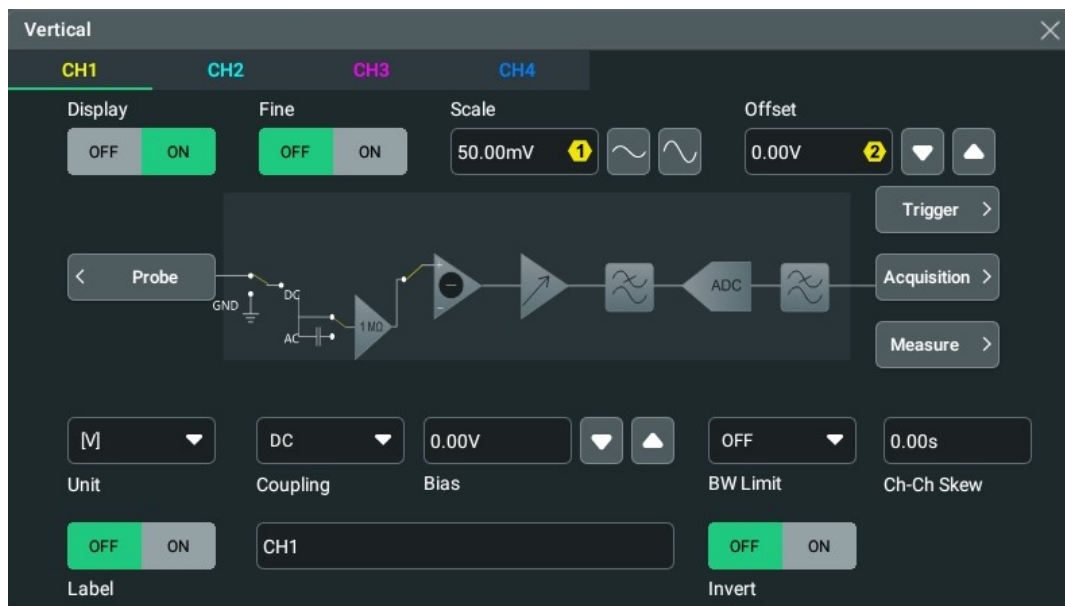

Figure 5.1 Vertical Menu
- In Figure 5.1, select the CH1 tab. Click or tap the **Display** on/off switch to turn CH1 on or off.
- In *Figure 5.1*, set **Display** to OFF to disable CH1.